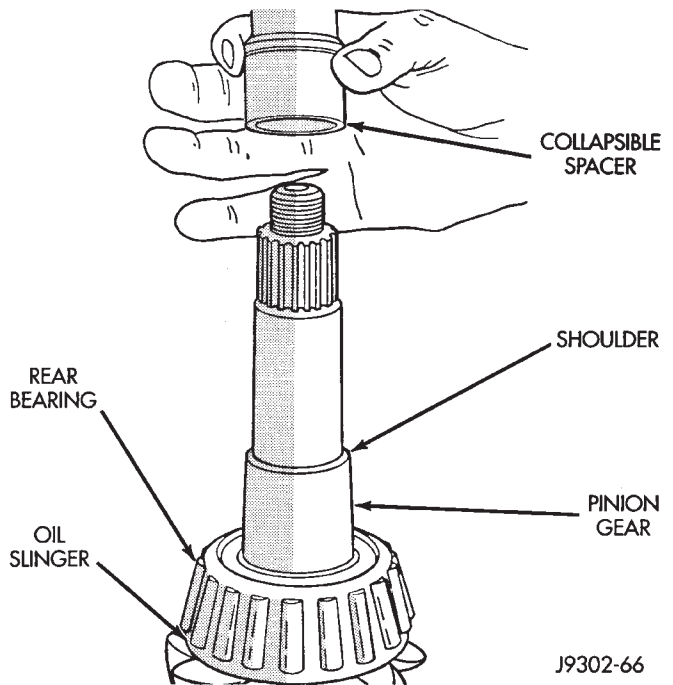

Fig. 35 Collapsible Preload Spacer
(6) Install a new collapsible preload spacer on pinion shaft and install pinion gear in housing (Fig. 35).